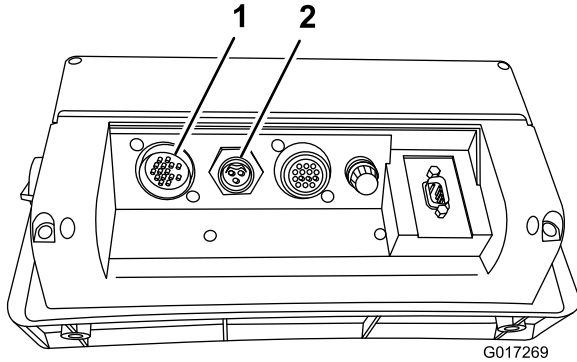

Figure 3
6. Plug the cables into their corresponding inputs on the rear of the console computer (Figure 3), and secure the cables by rotating the locking rings.